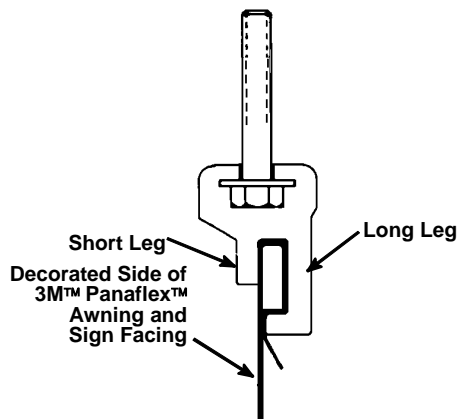

Figure 11. Correct Orientation of the 3M™ Wedge Clamp
- Before you install the clamp, notice that there is a short left and a long leg. Make absolutely certain that the **short leg faces the decorated side of the sign face** as shown in Figure 11. If wedge clamp is mounted backwards, the clamp can come loose.